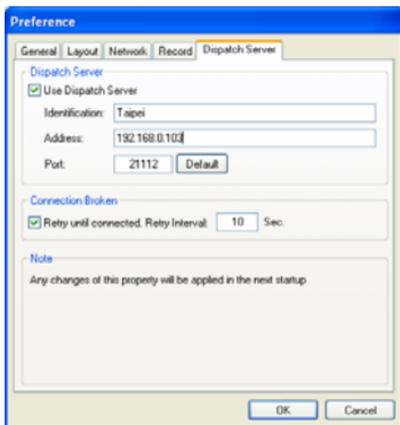

Figure 2-3
3. If you have arranged Center V2 servers and subscribers into groups in Dispatch Server, click the **Network** tab in Figure 2-3 and check the **Location Name** of the Center V2. The location name should match the server name created on Dispatch Server.
- **Server Port:** The port should match with the Center Port of the subscriber (Figure 1-7) and Dispatch Server Port of Center V2 (Figure 2-3) (All the three ports should match with each other). Or, keep the port setting as default.